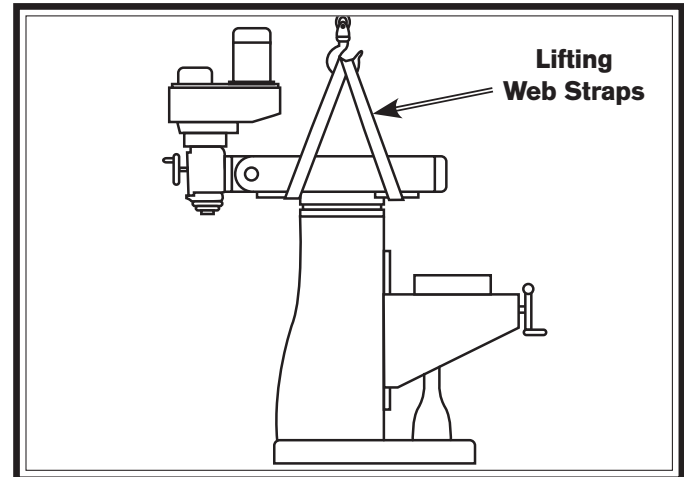

Figure 11. Optional lifting using web straps.
IMPORTANT: Before lifting mill, make sure four turret lock bolts (two on each side of ram, **Figure 11**) are torqued to 47 ft/lbs.
4. Attach lifting strap or chain to lifting eye located on top of the ram; or attach lifting straps under ram, as shown in **Figure 11**.